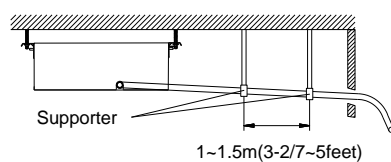

Figure 3-1-9
- (3) When the hose is long, install supporters.( Figure 3-1-9)
- (4) Always use the drain hose which has been insulated properly.